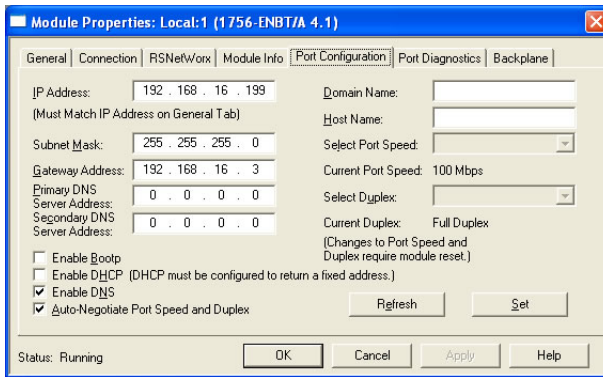

Figure 85: Confirming the Module's Properties
- 11) Confirm that the IP Address, Subnet Mask and Gateway Address fields are configured correctly. The IP Address must match the IP Address entered when the new module was first created. Refer to Figure 85.